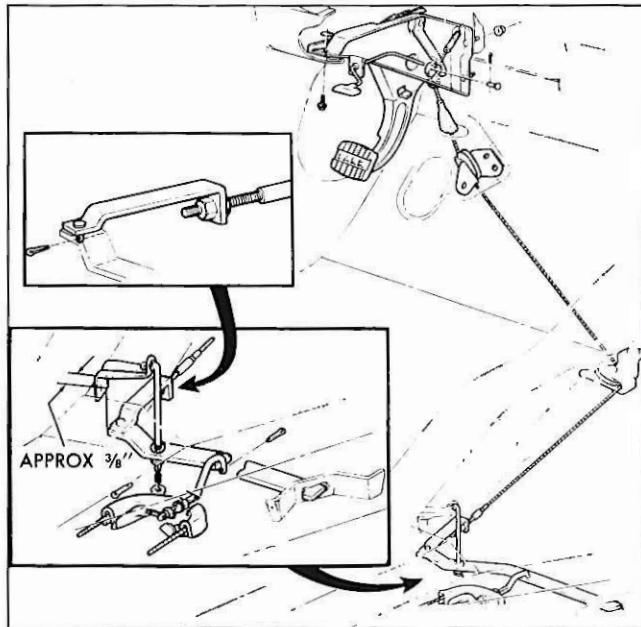

Fig. 12—1960 Passenger Car Parking Brake
2. With parking brake release handle in full release position (forward) check adjusted length of parking brake front cable. When the front cable is pulled taut at the idler lever, the rear edge of the idler lever should be approximately $\frac{3}{8}$ inch rearward from the rear edge of the idler lever frame bracket (fig. 12). If the idler lever is incorrectly positioned, adjust jam nuts at idler lever swivel to change effective length of front cable.
4. Depress parking brake pedal six (6) notches from the initial position.